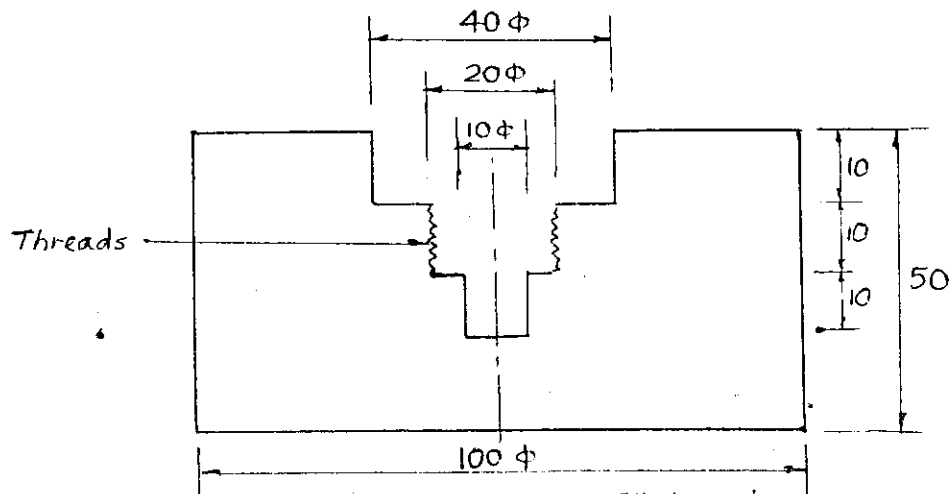

Fig.4.(c) All dimensions are in mm
- c. Show the tool layout of turret drilling machine for the product shown in fig. 4(c). (08 Marks)